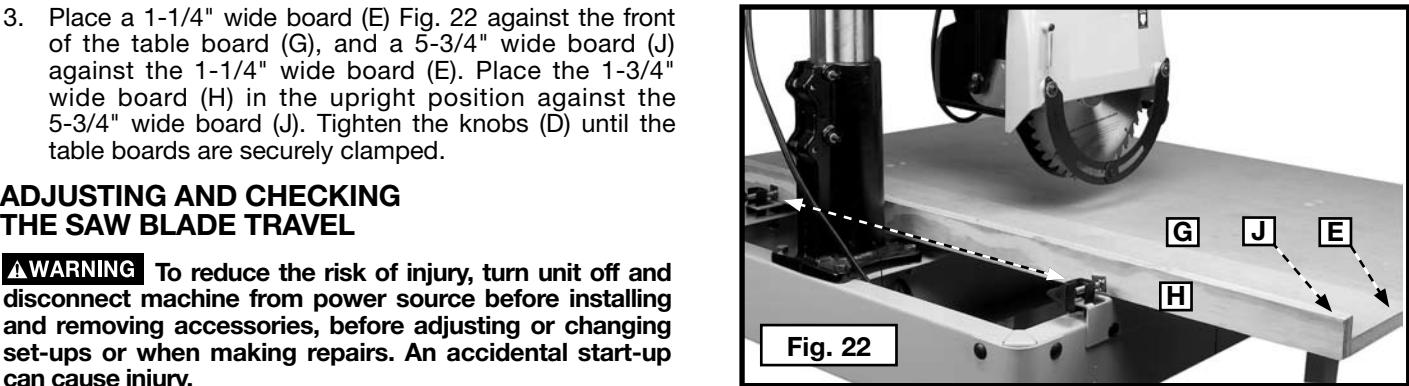

Fig. 22
- Place a 1-1/4" wide board (E) Fig. 22 against the front of the table board (G), and a 5-3/4" wide board (J) against the 1-1/4" wide board (E). Place the 1-3/4" wide board (H) in the upright position against the 5-3/4" wide board (J). Tighten the knobs (D) until the table boards are securely clamped.